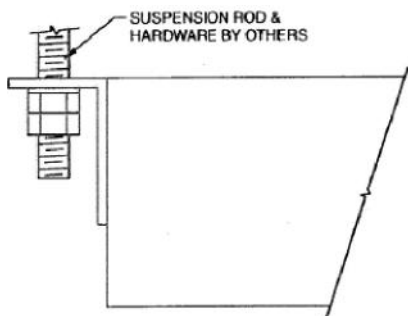

Figure 4 Suspension Mounting
**IMPORTANT:** • The installer is responsible for installing in accordance with applicable building and earthquake codes. See fig.4